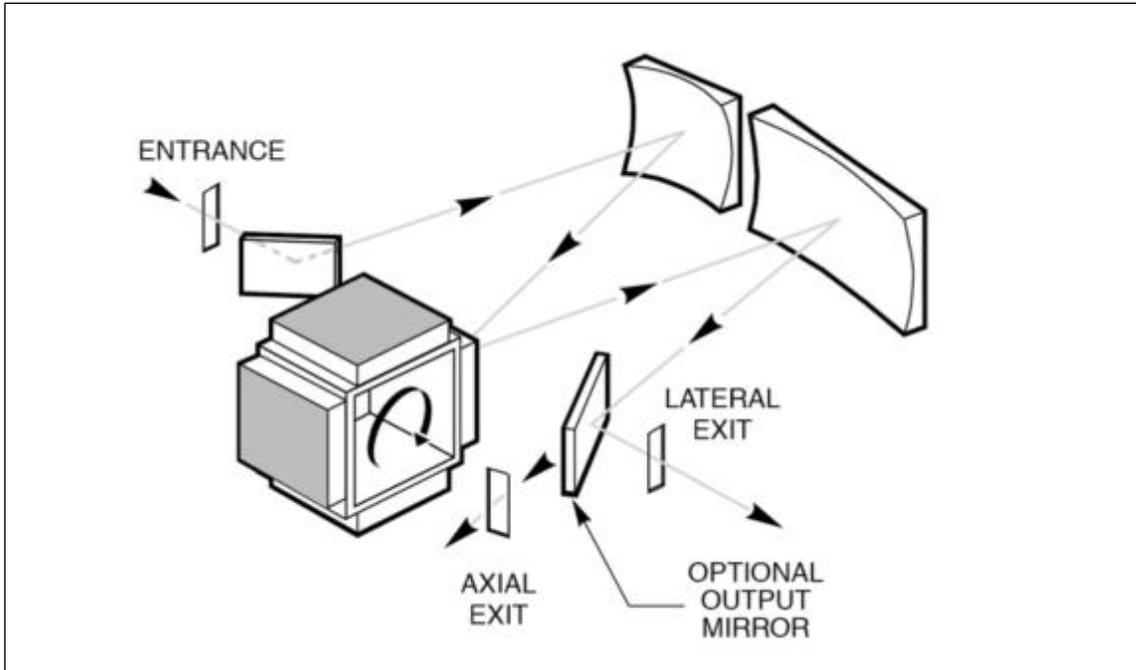

Figure 1: Optical Configurations of the Cornerstone 260B with Quad Grating Assembly.
The quadruple grating turret allows up to four (4) diffraction gratings to be installed on a four-sided assembly. All gratings are pre-aligned on the turret which is then installed on the precision rotation stage. The turret will flip each grating independently as the stage rotates (Figure 1).